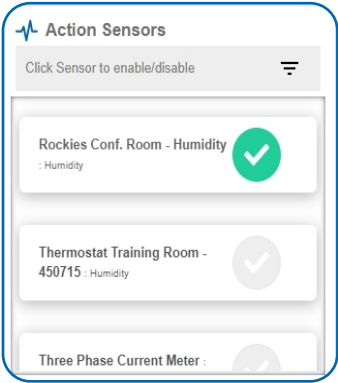

Figure 25
- By default, the sensor(s) will not be assigned to the action conditions you've just set. To assign a sensor, find the device(s) you want to designate for this action and select. Selected sensor boxes will turn green when activated. Choose the sensor box again to unassign the sensor from the action. See Figure 25.